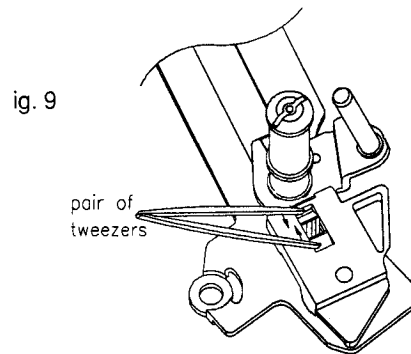

Fig. 9
- Compress the two snap hooks by means of a pair of tweezers and remove the roller assy from the roller unit right (Fig. 9).
- Unhook the tension arm spring (pos. 11), to avoid the tension arm spring being pre-loaded.
- At the bottom side of the drive assy, partially unhinge the sensor mounting print and remove the tension lever (pos.112).
- Compress the two snap hooks by means of a pair of tweezers (Fig. 9) and remove the roller assy (A) from the plate (B).